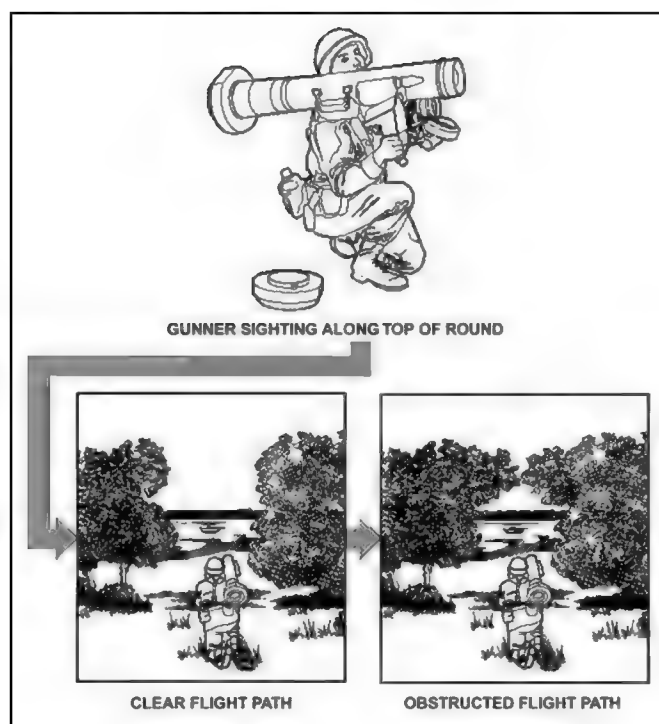

Figure 2-24. Gunner sights along the top of the round for obstructions.
(6) Hold the CLU by the right handgrip and adjust the body until comfortable with the Javelin.
(7) Check the overhead flight path between the target and the firing position. To do this, sight along the top of the round. The missile must have a clear flight path once launched (Figure 2-24).